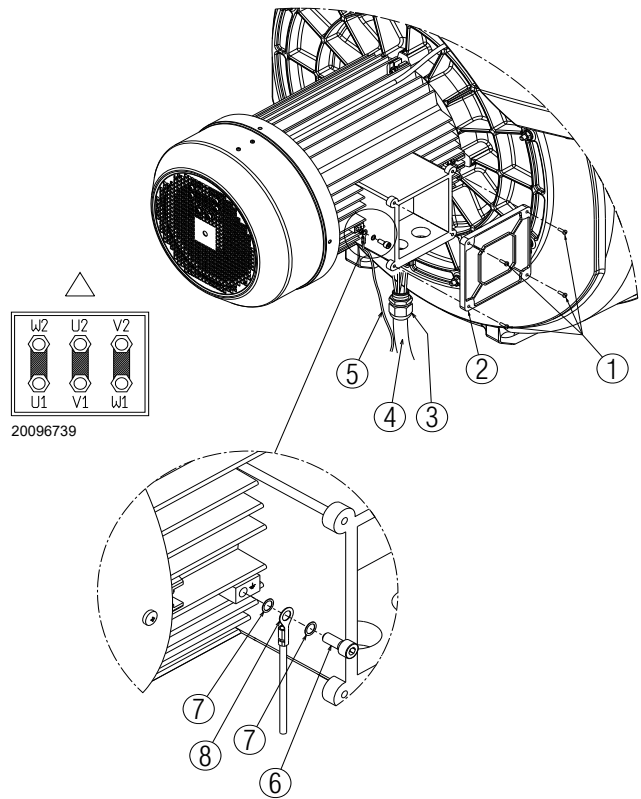

Fig. 23
- to access the motor casing, loosen the four screws 1)(Fig. 23) and remove the cover 2).
- Make a final visual check, then close the motor casing by tightening the 4 screws 1)(Fig. 23).